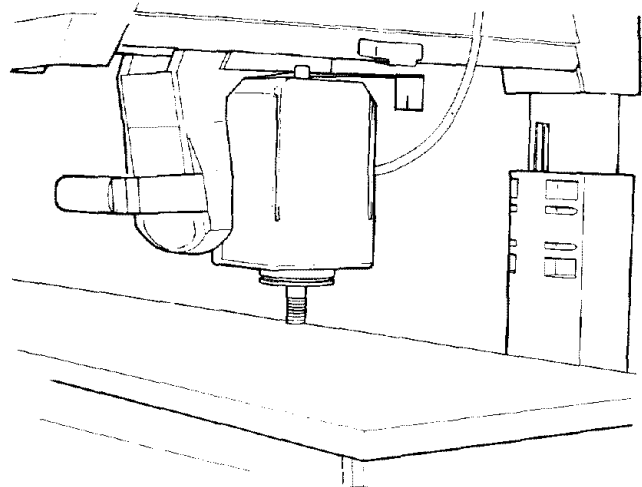

Fig. 73
3. Unlock the *bevel lock*, and turn the *motor* so that the *arbor* is perpendicular to the *table*. (Figure 73)